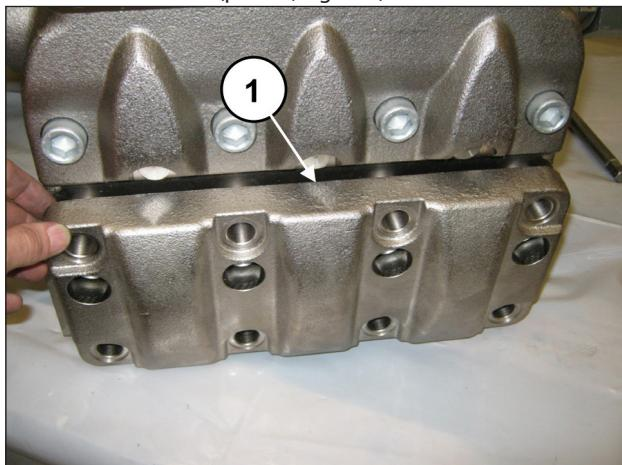
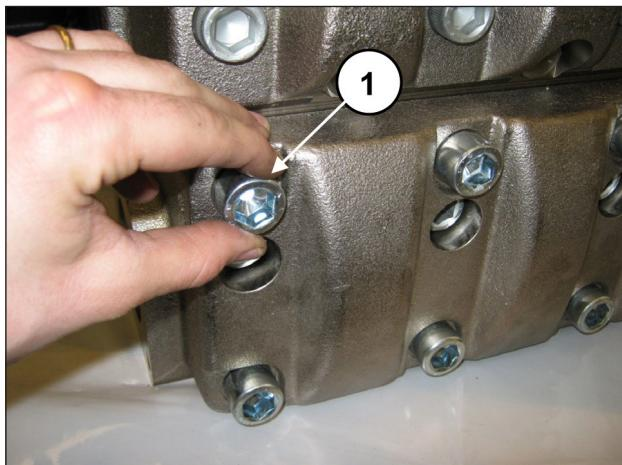

Fig. 154
Fig. 155
After having completed assembly of the suction valves units, apply the suction valves cover (pos. ①, Fig. 154) and screw in the 8 M18x50 screws (pos. ①, Fig. 155).